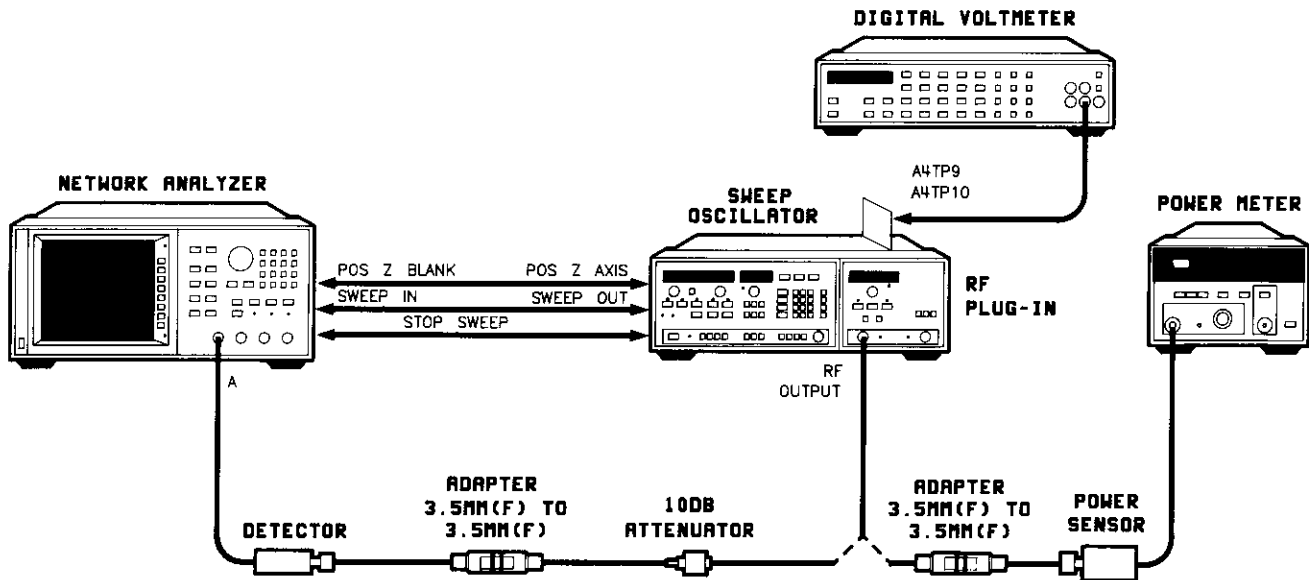

Figure 5-29. ALC Adjustment Test Setup
1. Connect the equipment as shown in Figure 5-29. With AC power off, remove A5 FM driver board. Place A4 assembly on an extender board. Press **[INSTR PRESET] [CW]**. Sweep the full range of the plug-in at any leveled power. Preset the following adjustments as indicated: